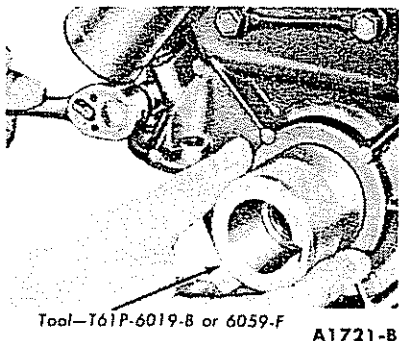

FIG. 54 Aligning Cylinder Front Cover
10. Coat the threads of the attaching screws with oil resistant sealer and install the screws. While pushing in on the alignment tool, tighten the oil pan to cover attaching screws to specifications (Figure 54). Tighten the cover to block attaching screws to specifications. Remove the pilot.